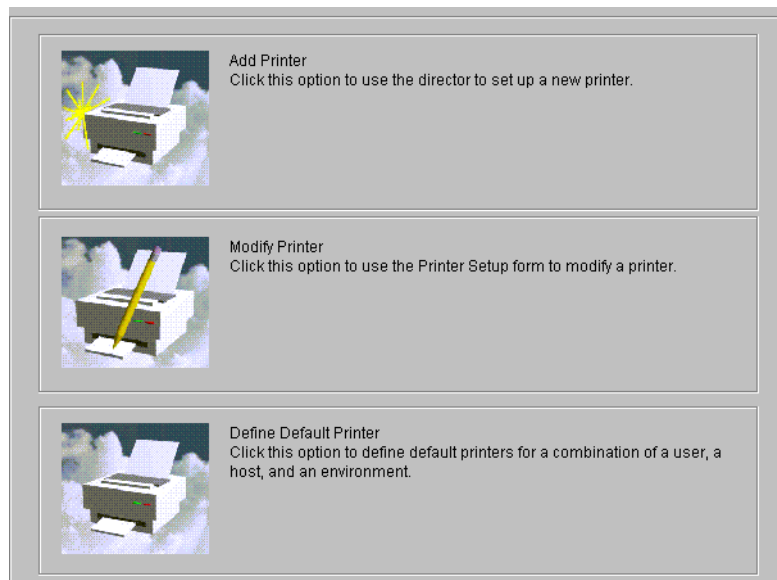

Figure 92. OneWorld printers menu
3. Double-click **Printers**. The display shown in Figure 92 appears.